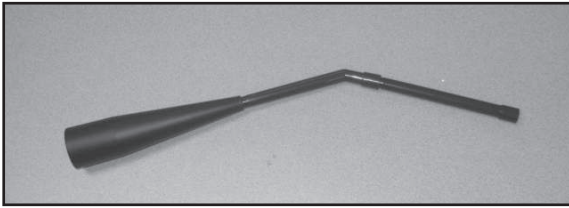

Figure 38.1
- c. Assemble the crevice tool from the micro cleaning kit to attach to a Shop Vac. **Figure 38.1.**